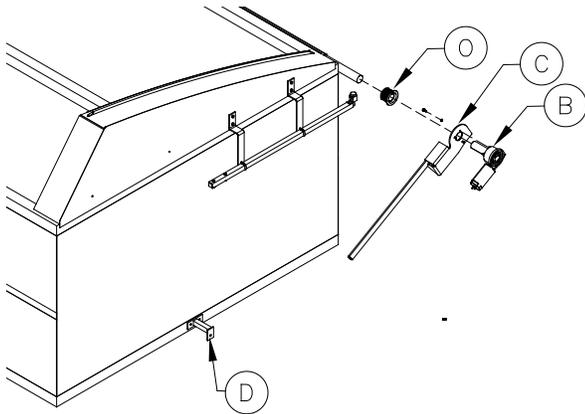
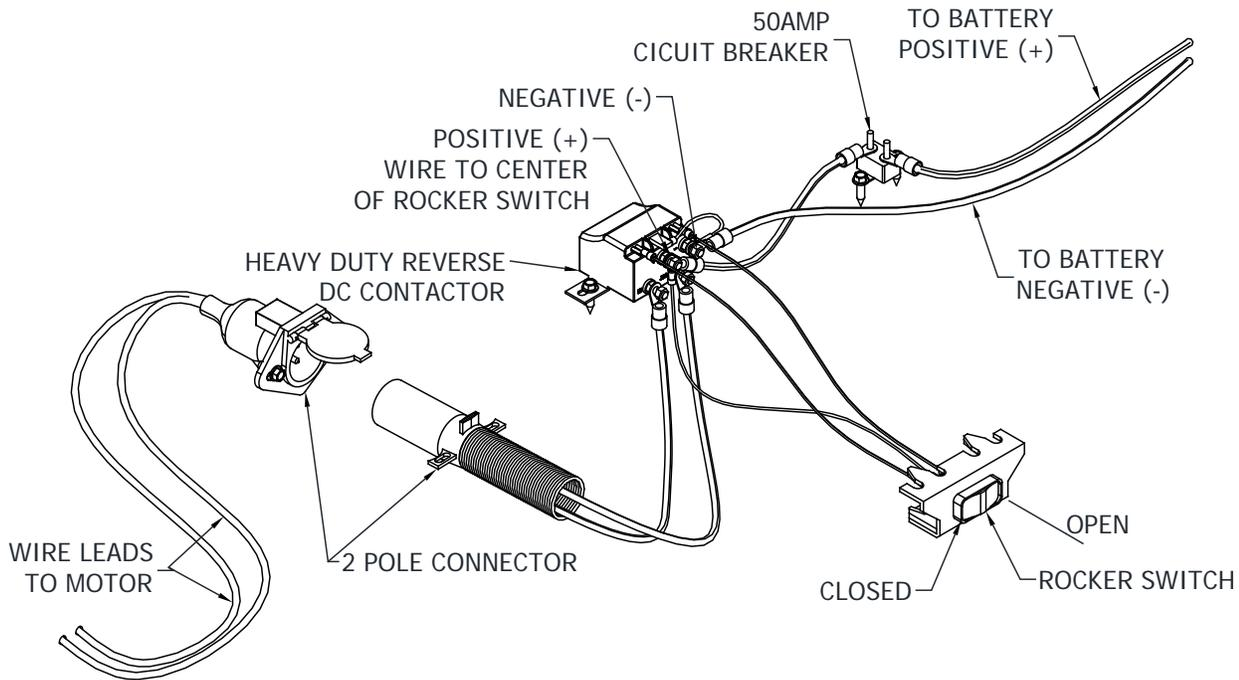

Figure 20
Figure 22
Step 10A: Rocker Switch Electrical Installation (See Figure 22)
Procedure: Mount the rocker switch in an obstruction free area inside the truck cab. Then mount the solenoid on the frame near the cab of the truck. Run the #6 double strand wire from the solenoid along the truck frame to the rear box hinge point. Now run the wires along the box frame to the front box sill. Leave a slight amount of slack at point (D) (see Figure 20) and continue running the wire along the pivot arm. Secure the wire to the top pivot arm (C) with the tie straps provided. Attach the wire to the truck with the wire clips and 1/4"x1" self-tapping screws that are provided. The ends at the solenoid both get a black rubber boot and a #6-1/4" stud crimped on. Splice a 50amp circuit breaker in line with 1 of the wires running from the motor to the socket or solenoid. Connect the wires to the motor posts. Secure the motor cover to the motor with the 2 screws provided. Run the 14-3 wire from the solenoids to the rocker switch. At the switch, each wire gets a 14G female end crimped on and at the solenoid each wire gets a 14G female end except for the wire connected to the middle post of the switch gets a 14G-3/8" ring terminal crimped on to connect to the positive (+) post of the solenoid. Follow wiring schematic below (Figure 22). Raise and lower the hoist to make sure that the wires are free from obstructions. Run #6 wire from the solenoid to the battery posts. The wire with the red stripe will be the positive wire and will get bolted on the positive post marked (+) along with the black 14Ga wire running from the switch. The black wire or negative wire will be bolted onto the bottom negative post (-). Put the 50A circuit breaker in line with the positive wire. (See Figure 22)